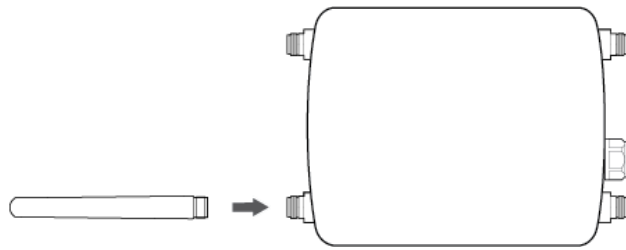

Figure 21. Installing Antennas to the Access Point
1. Screw a 5GHz antenna into the 5GHz antenna connector on the top panel of the access point. See Figure 21.
3. Screw a 2.4GHz antenna into the 2.4GHz antenna connector on the top panel of the access point. See Figure 21.